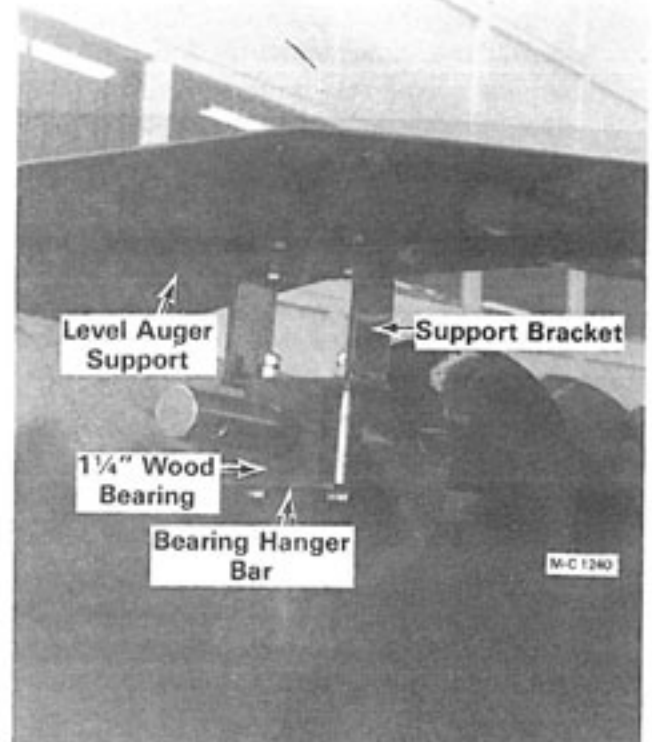

Figure 4 - Level Auger Bearing
3. Assemble the level auger bearing(s) to the level auger support(s), see Figure 4. **DO NOT** put pressure on the wood bearings by
over tightening the bearing bars. The distance from the bottom of the level auger bearing support bar to the center of the level auger bearing should be $4\frac{1}{2}$ ", see Figure 4.